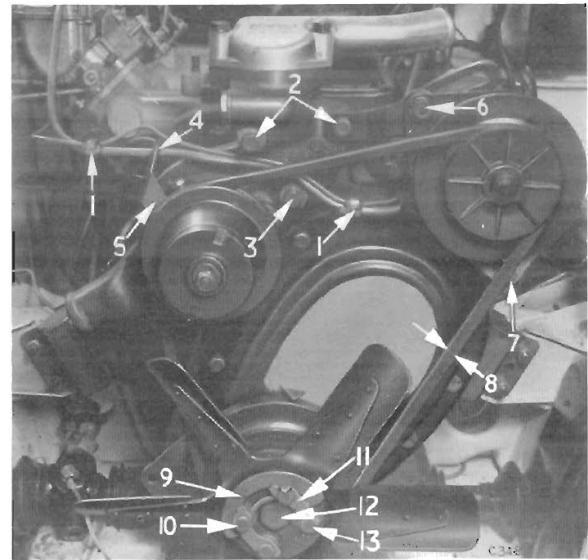

Fig. 84. Vitesse water pump, generator and fan installation
Service the water pump as described on page 1-204 and assemble it to the engine as shown on Fig. 84.
**Key to Fig. 84**